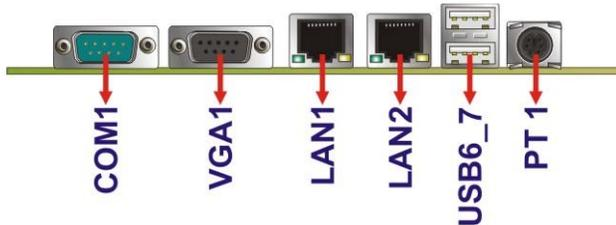

Figure 3-24: NANO-PV-D4251/N4551/D5251 External Peripheral Interface Connector
Figure 3-24 shows the NANO-PV-D4251/N4551/D5251 external peripheral interface connector (EPIC) panel. The NANO-PV-D4251/N4551/D5251 EPIC panel consists of the following:
- CN Location:** See **Figure 3-24**